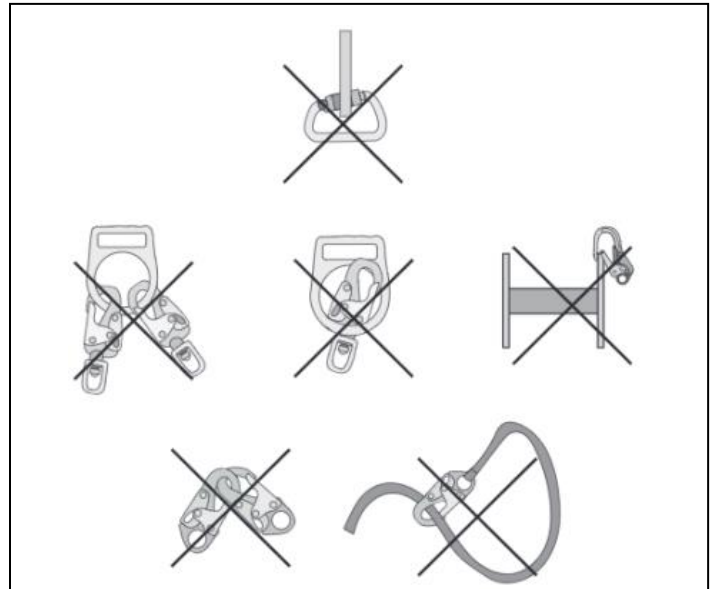

Figure 5: Improper connections
- 7.5 MAKING CONNECTIONS:** Equipment (including snap hooks and carabiners) used with the SRL must be self-locking and compatible in size, shape, strength. Do not use equipment that is not compatible. Before use, ensure all connectors are fully closed and locked. Refer to Figure 5. Do not connect snap hooks and carabiners: